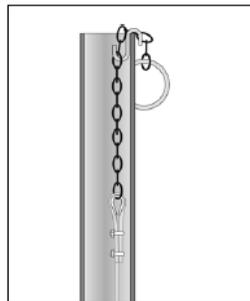

Figure 12
2. Use the chain and S-hook to make fine adjustments to the final depth of the sensor (see Figure 12).